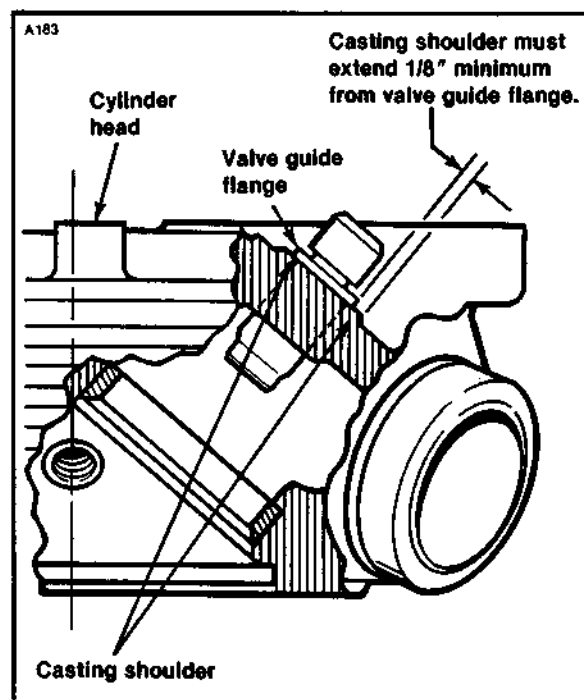
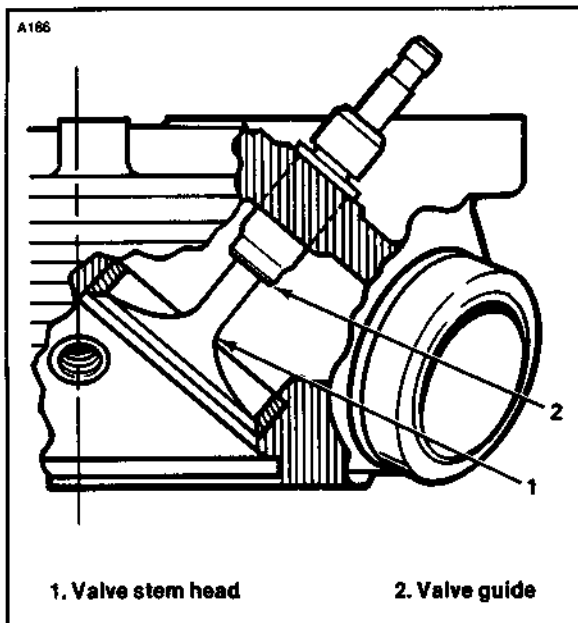

Figure 5. Cylinder Head Casting Shoulder
Figure 6. Valve Guide to Valve Stem Head Clearance
2. See Figure 5. The cylinder head casting shoulder around the bore for the valve guide must extend a minimum of 1/8 in. from under the valve guide flange so the lower spring collar will sit square. If the shoulder extends less than 1/8 in., grind shoulder off flush with the cylinder head casting.
3. See Figure 6. After reaming guide for proper clearance, cutting valve seat in accordance with current Service Manual procedure, and grinding the casting shoulder around valve guide bore (Figure 5), check to determine that the back of the valve stem head (1) does not interfere with the end of the valve guide (2). If there is interference, remove material from end of valve guide (2) until clearance is obtained.